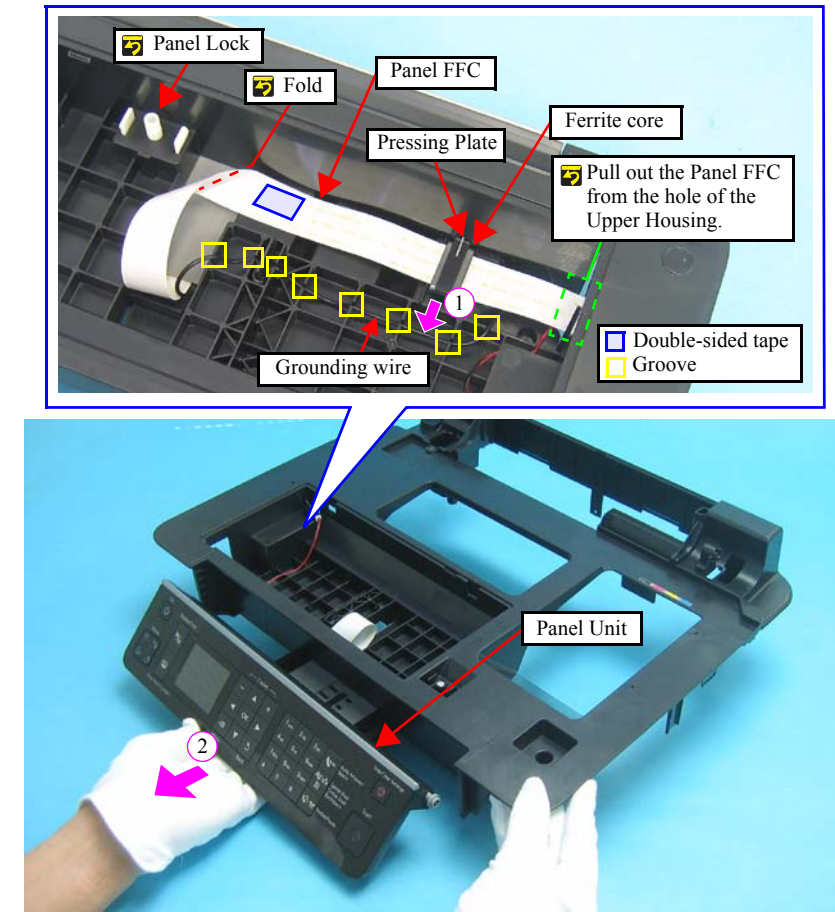

Figure 4-17. Removing the Panel Unit (2)
2. Insert the Panel Unit to the Upper Housing with the panel lock pulled toward upside the printer. (Refer to Figure. 4-17.)
- Route the Panel FFC and grounding wire as shown in Figure. 4-17.